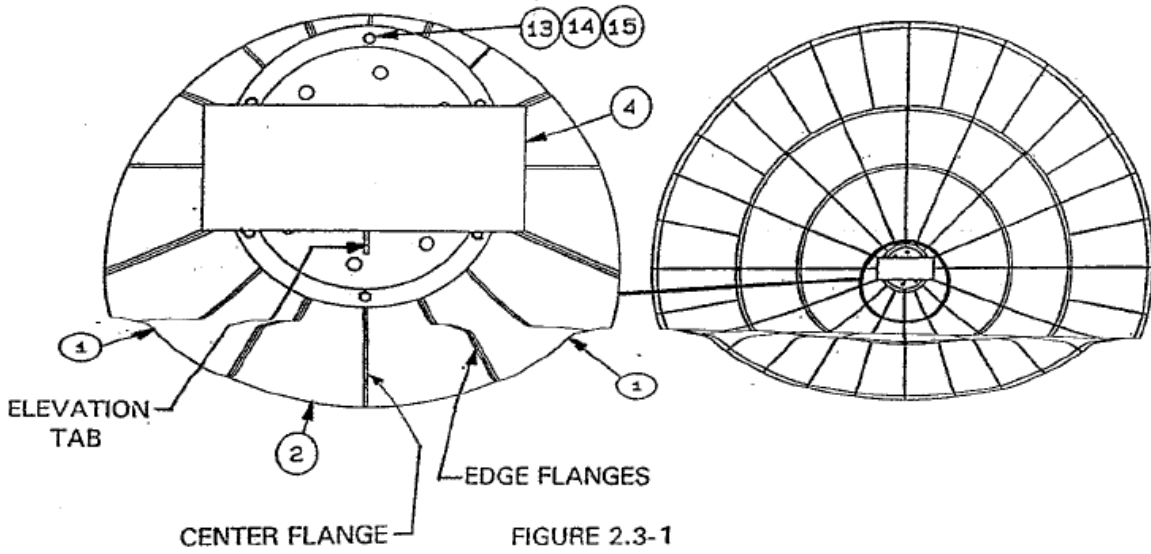

FIGURE 2.3-1
1. Rotate the center hub until the elevation tab is centered over a petal without a feed clevis (item# 2) as shown in figure 2.3-1.